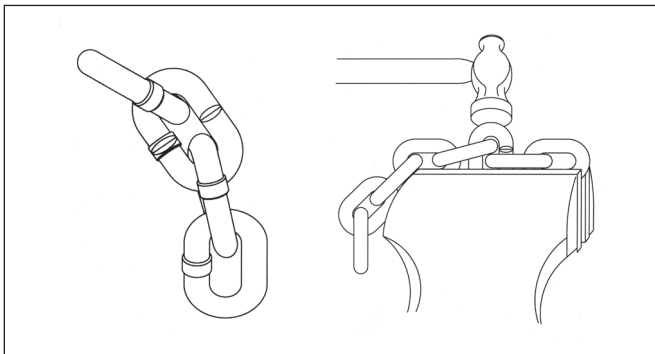

Figure 21. Cutting Chain by Nicking
1. Use a grinder and nick the link on both sides (Figure 21), then secure the link in a vise and break off with a hammer.